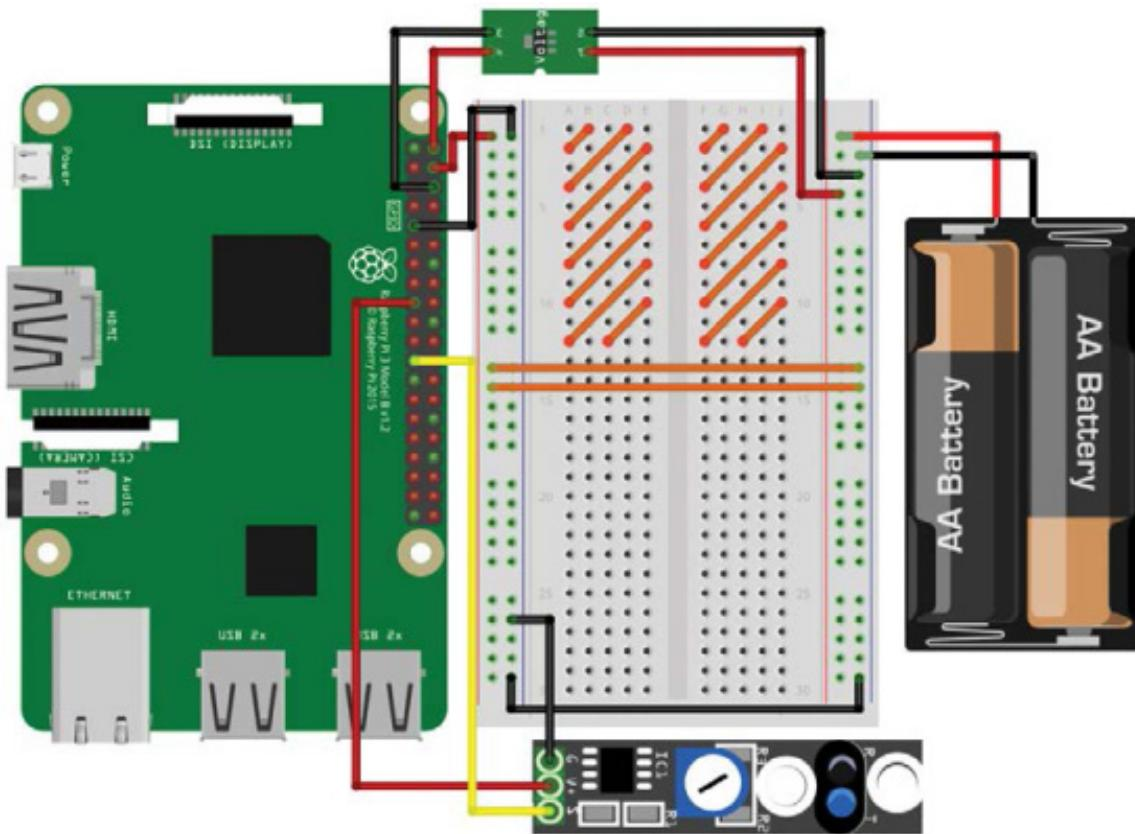

FIGURE 7-13 Second line-following sensor connected to power, ground, and data
3. Use a wire to connect the data output pin of your second sensor (OUT) to physical pin 23 on your Pi. This is BCM 11. The wiring for the second sensor, with the first sensor omitted, should look like Figure 7-13.